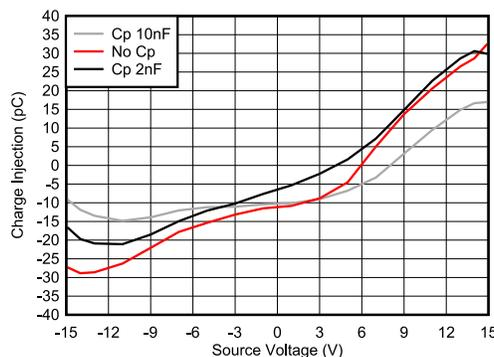

图 8-2. Charge Injection Compensation
The TMUX7219M contains specialized architecture to reduce charge injection on the source (S_x). To further reduce charge injection in a sensitive application, a compensation capacitor (C_p) can be added on the drain (D). This will ensure that excess charge from the switch transition will be pushed into the compensation capacitor on the drain (D) instead of the source (S_x). As a general rule, C_p should be 20× larger than the equivalent load capacitance on the source (S_x). 图 8-2 shows charge injection variation with source voltage with different compensation capacitors on the drain side.